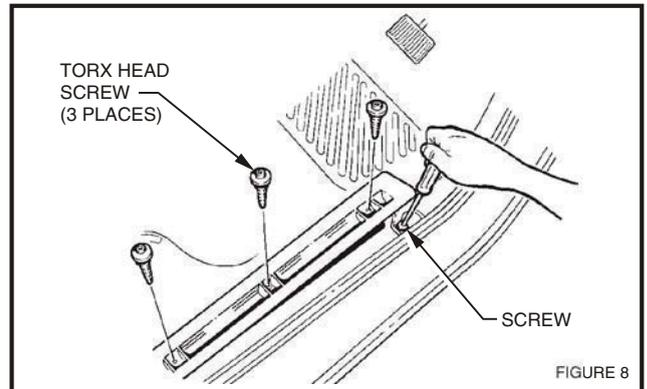

FIGURE 8
- 12. Remove front three TORX head screws and loosen rear most screw with TORX bit T25, refer fig. 8.
- 13. Lift front of RH inner rocker panel cover and remove screw securing the shroud lower trim assembly to the rocker panel, refer fig. 8.